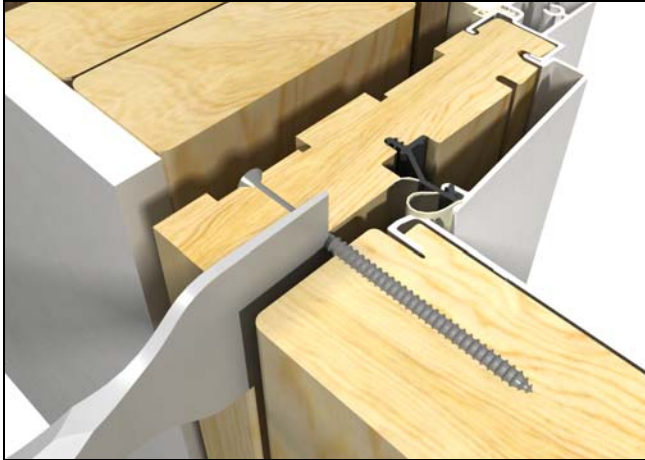

Figure 7
2. Locate stationary panel attachment screws by sliding a masonry chisel between the space of the stationary jamb and panel (both side and head). When a screw is located you will hear a distinct metal sound. Shear off each screw (3 - 4 along jamb and 4 at the head jamb) with one blow of a 3# hammer striking the masonry chisel. See figure 7.